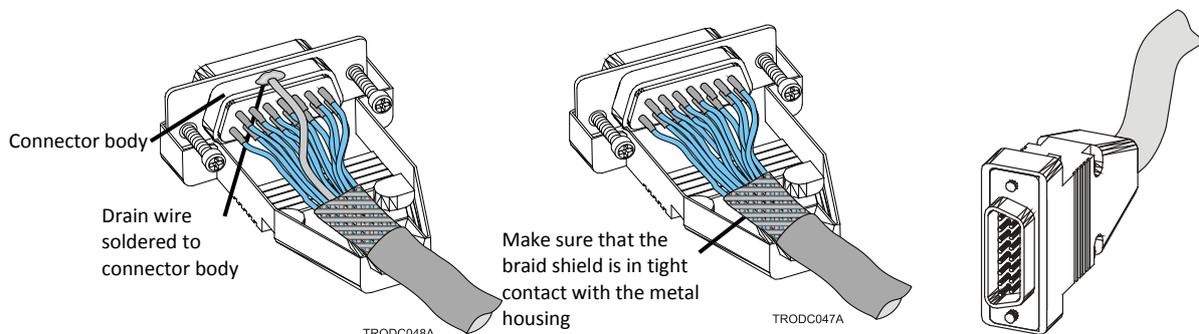

Figure 12: Feedback and Control Cable Assemblies
3. Ideally, solder the shield drain wire to the connector body as shown in Figure 12. However, the shield may also be attached without soldering, as long as the braid shield is in tight contact with the metal housing of the D-type connector.